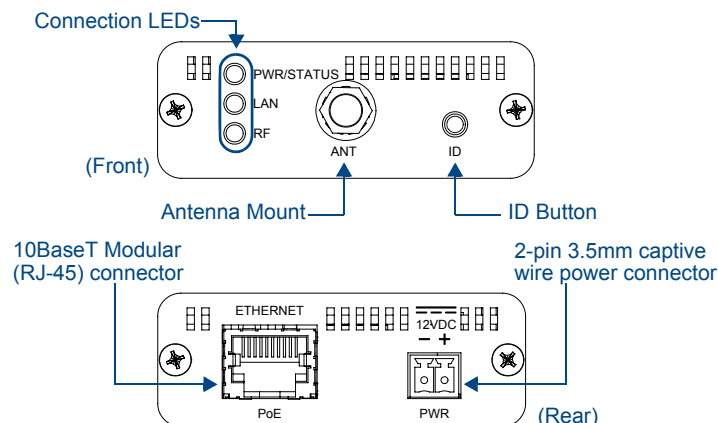

FIG. 1 The NXR-ZGW Device (front and rear)
1. Confirm the NXR-ZGW is receiving power by checking the PWR LED shown in FIG. 1.